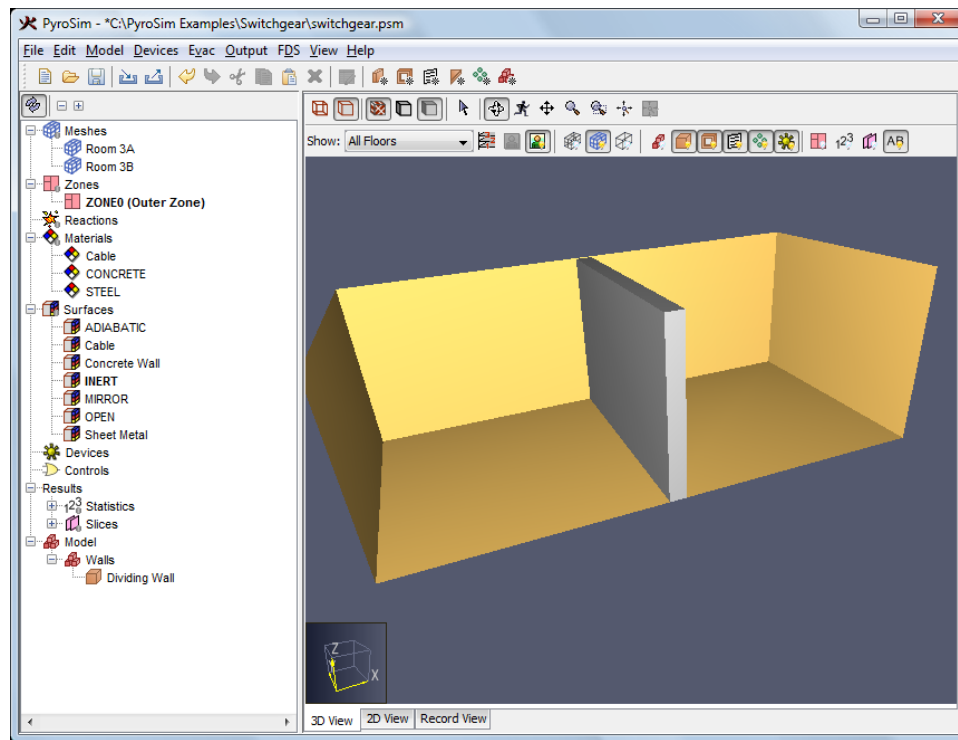

Figure 7.10. Display of the dividing wall
7. In the toolbar, click to turn off the **Show Mesh Divisions** option. The display should now look like Figure 7.10.